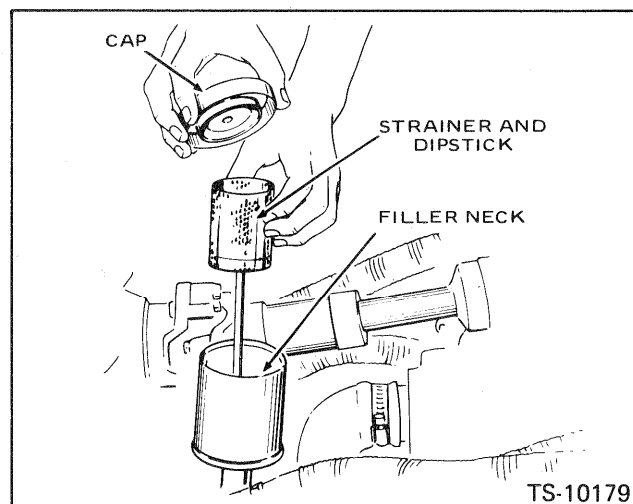

Fig. 9-1 Transmission Filler Neck, Cap, Dipstick and Strainer
Remove the floorboard in the operators compartment. Remove the filler cap from the filler neck, (See Fig. 9-1 for the position of the filler neck). Pull out the strainer and dipstick with a clean, lint free cloth. Re-insert to check the fluid level, pushing the strainer and dipstick down firmly. The fluid level must be at the **FULL** mark on the dipstick. If the fluid level is below the **FULL** mark, re-insert the strainer and dipstick, making sure that the strainer is clean and free from foreign material and fill as necessary.
7. Refill the transmission, torque converter and winch with the type of fluid specified in this manual through the filler neck (Fig. 9-1) until the correct level shows on the dipstick. Approximate capacity — 4.5 gallons (Imperial measure), 5.4 gallons (U.S. measure).
10. Refill the transmission, torque converter and winch restart and run the engine for 5 minutes at approximately 1,500 rpm, checking the filter assemblies, drain plug, hoses and connections for leaks. Recheck the transmission fluid level when it is at operating temperature (180°F. to 200°F.). Add fluid as necessary. Fig. 9-1.